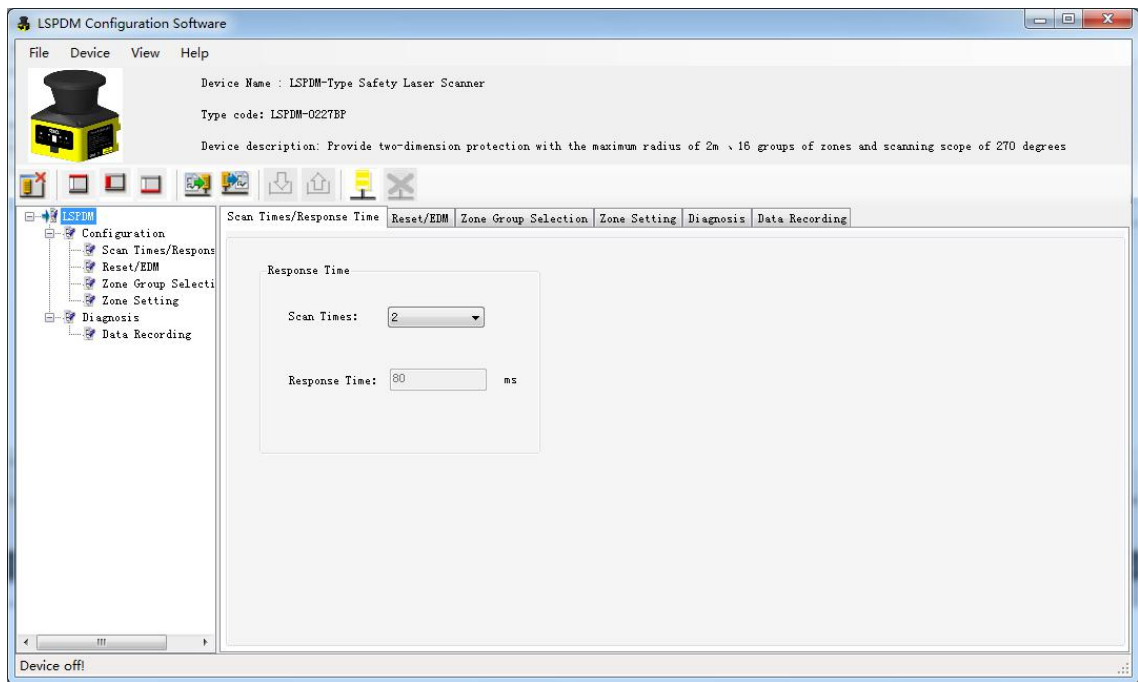

Fig 1.3.2 Configuration software main interface
- f) Click the **【OK】** button, the program will enter the main configuration interface of the selected device type, as shown in Figure 1.3.2.